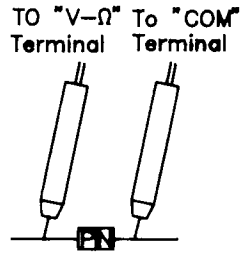

Figure 3-3.
4. Connect the leads to the semiconductor junction (diode or transistor) as shown in Figure 3-3 and 3-4, and read displayed value.
In the case of Figure 3-3, the reading value shall be the approx. Forward voltage of the semiconductor junction. If the reading value is ".000" that means the junction is short. If the reading value is "1." that means the junction is open.